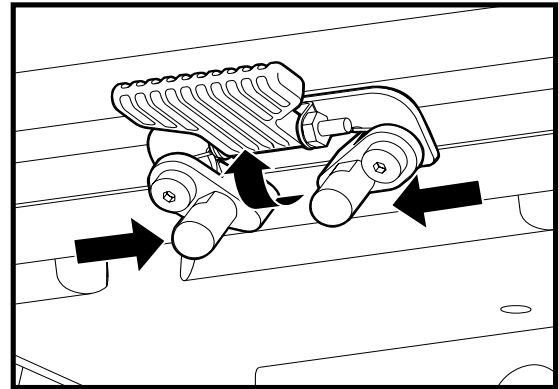

Figure 24. Seat Safety Latch
4. Flip up the seat latch safety. See figure 24.